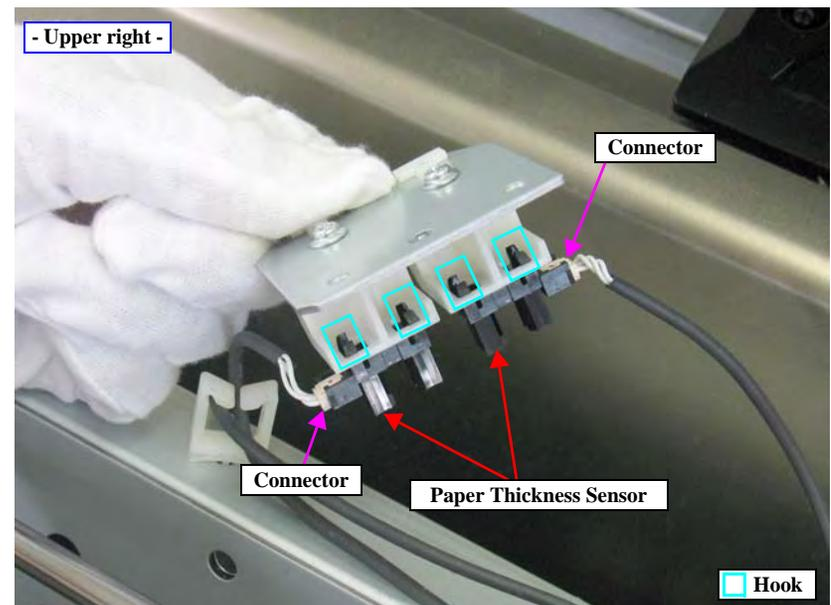

Figure 4-82. Removing the Paper Thickness Sensor
10. Disconnect the connectors from the Paper Thickness Sensors. See Figure 4-82.